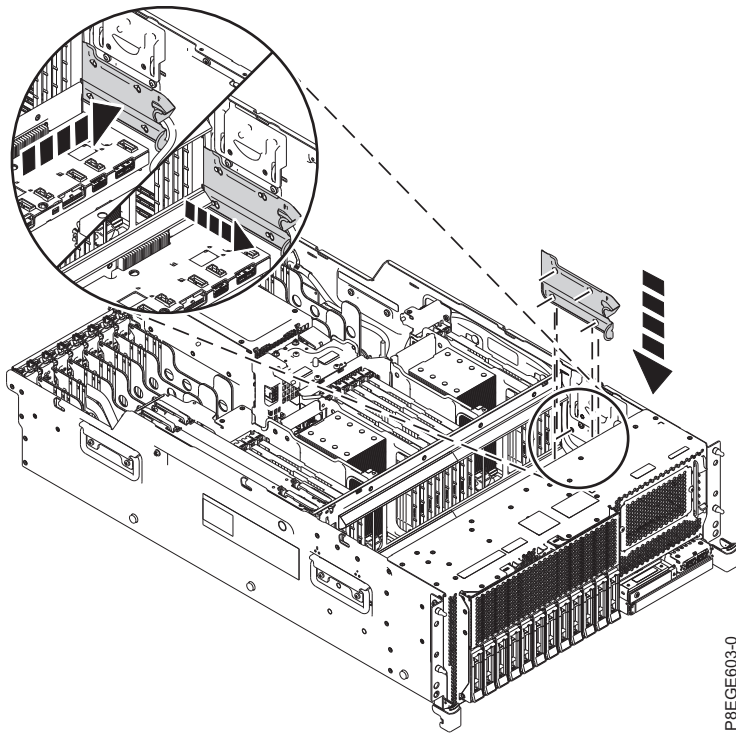

Figure 4. Replacing the USB cable cover
5. Replace the USB cable cover by inserting the slots on the cover over the pins on the chassis. Grasp the top handle of the cover and pull the cover toward the front of the system. Pull the cover forward until the slots are seated on the pins and the top handle of the cover latches. See Figure 4 on page 6.